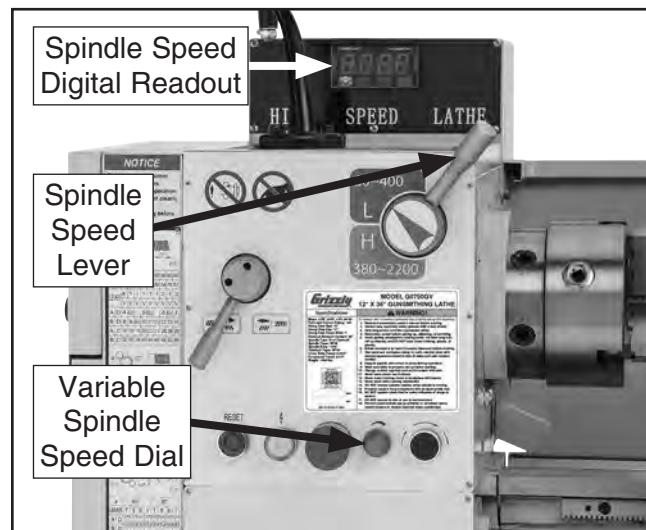

Figure 61. Spindle speed controls and display.
Determine spindle speed, then use the spindle speed lever, shown in **Figure 61**, to select the spindle speed range that best suits your cutting task.
3. Turn spindle **ON**, then turn variable spindle speed dial to adjust speed shown on spindle speed digital readout to your calculated speed (see **Figure 61**).